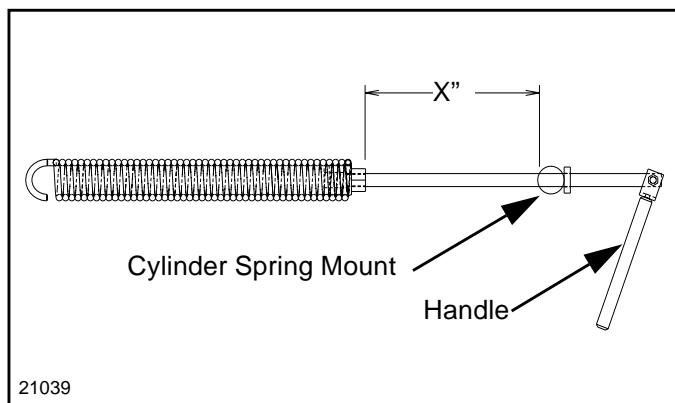

Figure 2-6
2. Refer to **Figure 2-6** below. Adjust accordingly by turning handle until "X" dimension is equal to the dimension represented below for your mower.